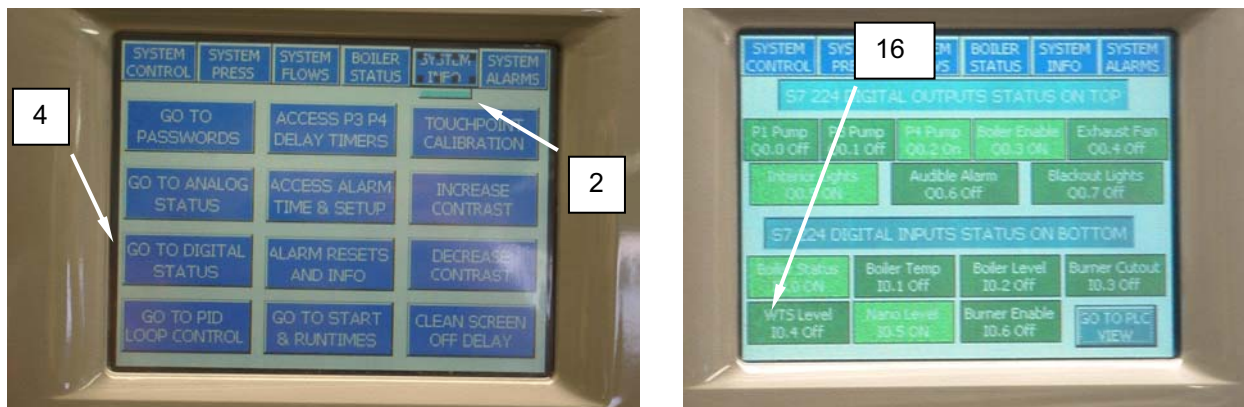

Figure 13. Test PLC Controller.
4. Access the DIGITAL INPUT/OUTPUT STATUS screen by first touching the SYSTEM INFO tab (Figure 13, Item 2), and then the GO TO DIGITAL STATUS button (Figure 13, Item 4).
5. On the PLC display, bring up the PLC view by touching the GO TO PLC VIEW button (Figure 13, Item 16) on the DIGITAL INPUT/OUTPUT STATUS screen.